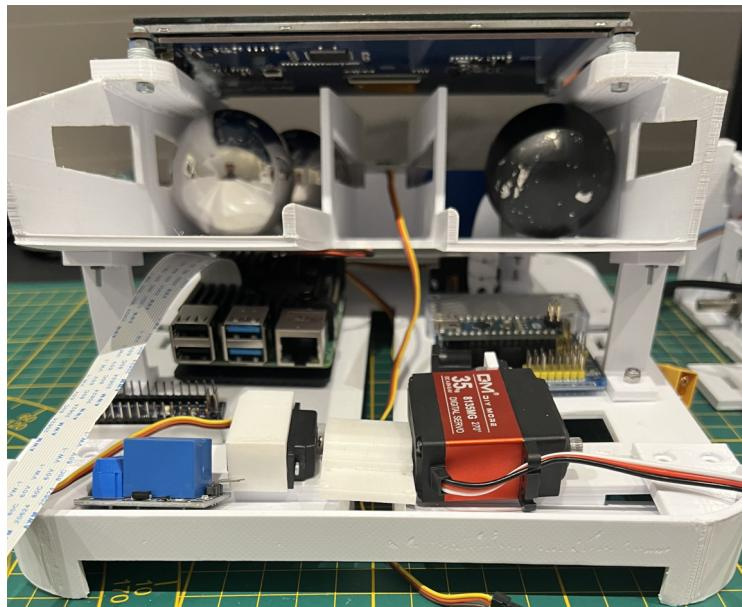

Figure 29: Added fully assembled victim storage system to the upper panel
Today's progress doesn't seem much (see Fig. 29), but removing the excess support material has once again taken much longer than expected.
- Finally assembled all the parts like arranged in Fig. 29 (until the Raspberry 5 arrives, we are using our old Raspberry Pi 4B) and connected all the cables